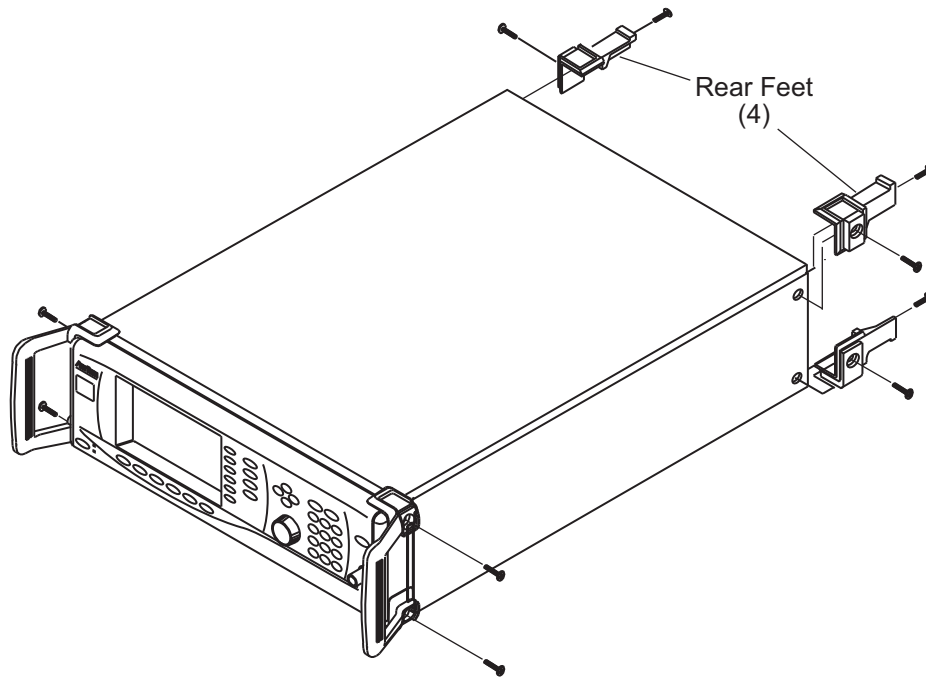
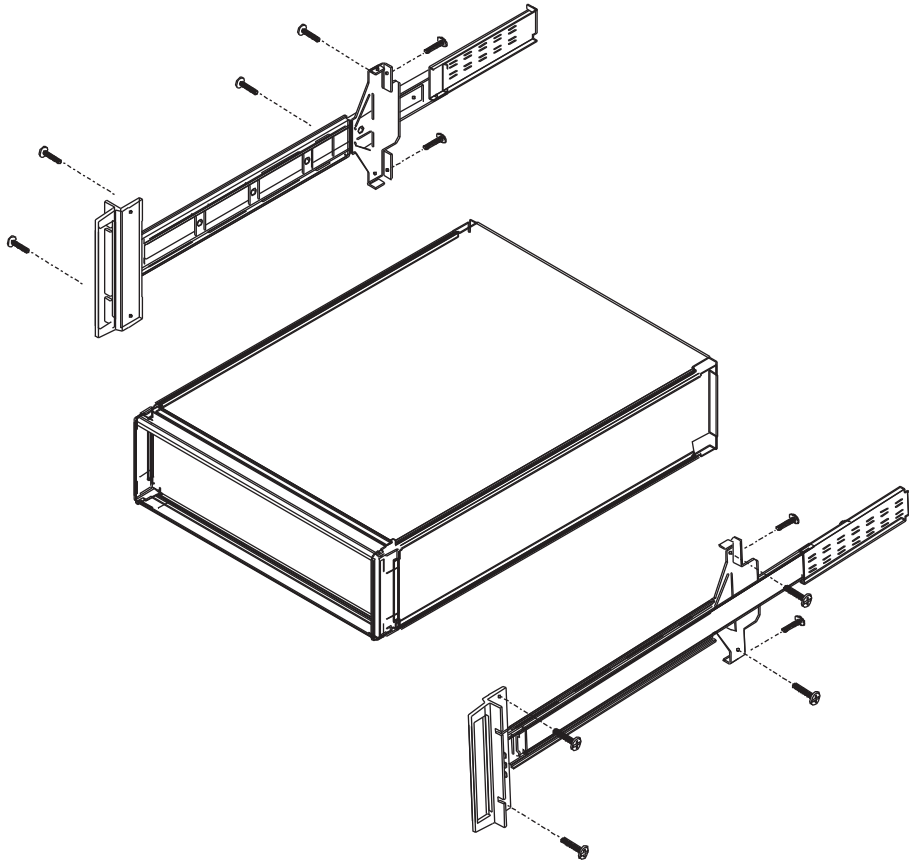

Figure 2-2. Front Handle and Feet Removal
Figure 2-3. Rack Mounting Hardware Installation
The rack mounting kit (Option 1A) contains a set of track slides (90° tilt capability), mounting ears, and front panel handles for mounting the signal generator in a standard equipment rack. The following procedure provides instructions for installing the rack mounting hardware on to the instrument. The rack mounting kit (Option 1B) uses the same inner assembly without the slide. This procedure may also be used for installing the Option 1B rack mount assembly. Refer to Figure 2-2 and Figure 2-3 during this procedure.
4. Place the left side inner slide assembly onto the instrument case with the handle towards the front of the instrument (Figure 2-3 on page 2-4).